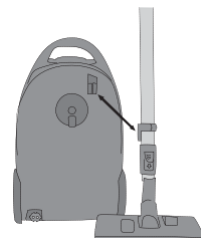

Figure 10 Storing the vacuum cleaner
- Stand the vacuum cleaner upright. An attachment slot for the accessory bracket is fitted to the back of the vacuum cleaner next to the front castor see Figure 10. Slide the bottom of the accessory bracket into the slot. This avoids the need to dismantle the vacuum cleaner after use; you can store the assembled appliance and retrieve it again quickly when you need it.